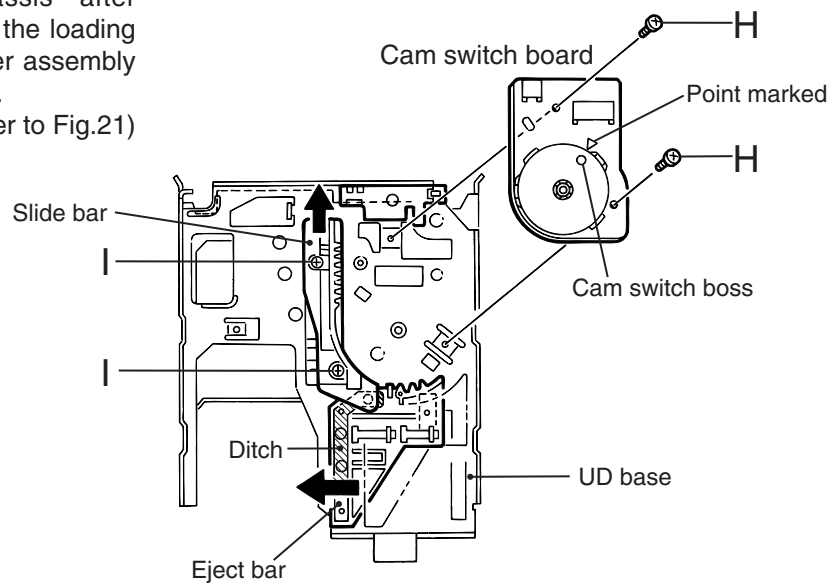

Fig.20
2. Reattach the slide bar to the loading mechanism chassis while fitting the boss marked k to the eject bar slot. (Fig.20)
3. Slide the slide bar and the eject bar in the direction of the arrow in Fig.20 and reattach the cartridge holder assembly using the two screws l.
(Fig.20 and 21)